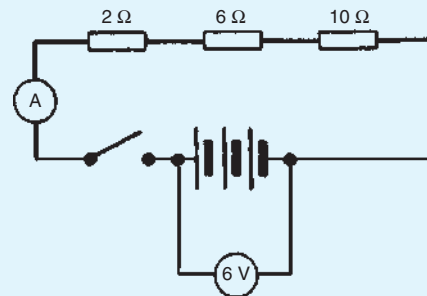

Figure 5.57
6. With the switch in Fig. 5.57 closed the ammeter reading will indicate:
7. A $6\ \Omega$ resistor is connected in parallel with the three resistors of Fig. 5.57. With the switch closed the ammeter reading will indicate: